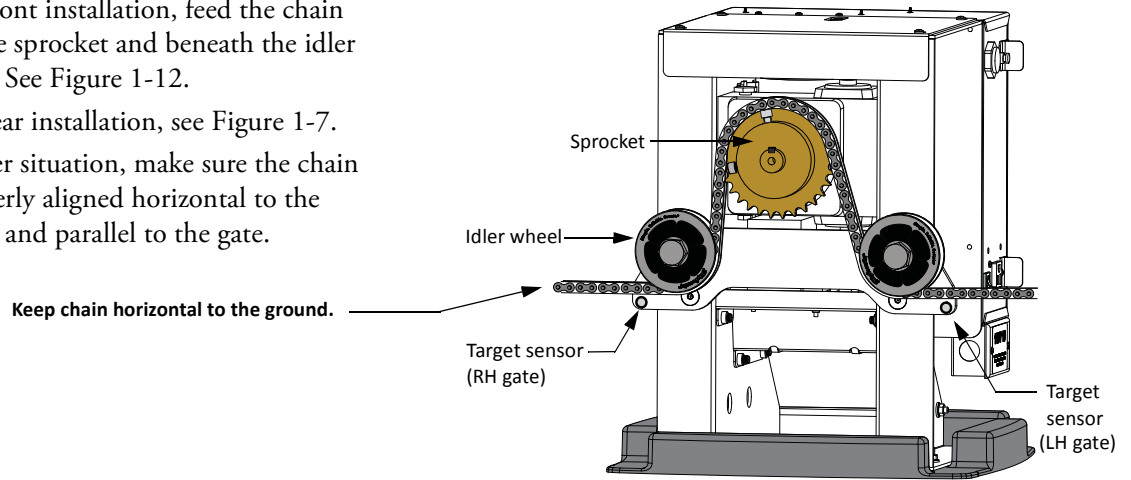

Figure 1-12.
1. For a front installation, feed the chain over the sprocket and beneath the idler wheels. See Figure 1-12.